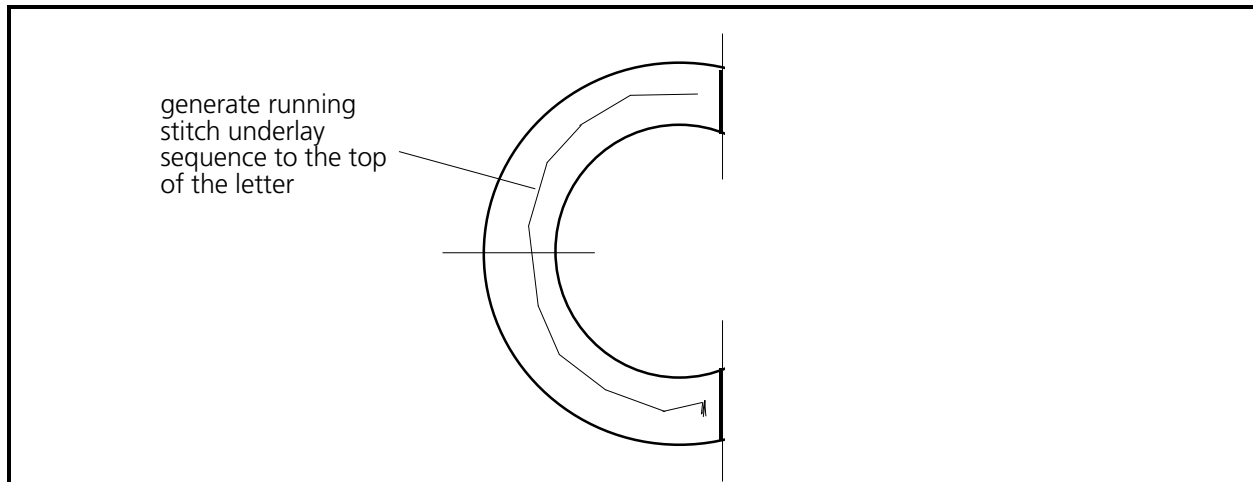

Figure 6-40
3. Place a running stitch underlay with Mk1s to get to the upper right portion of the letter **c** (see Figure 6-40).